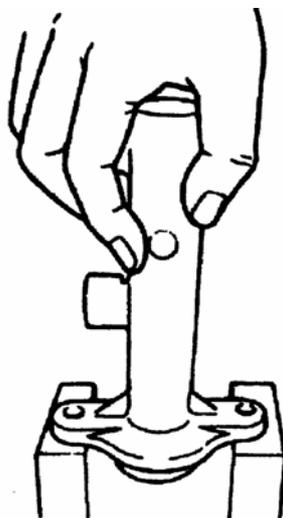

FIG.16-58
(3) Take out primary piston assembly, pay attention to not make piston fall off. (FIG.16-58)